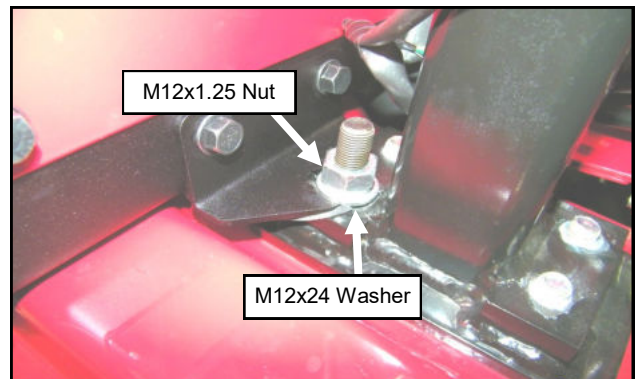

Fig. 4.3a (Attach Side Frame)
4.3 Set the left side frame in place so that the ROPS bracket sits as far rearward as possible against the extended ROPS bolt installed in step 1.11. Loosely secure the lower ROPS bracket to the extended ROPS, followed by two screws and nuts under the floor board. See Figures 4.3a-c.